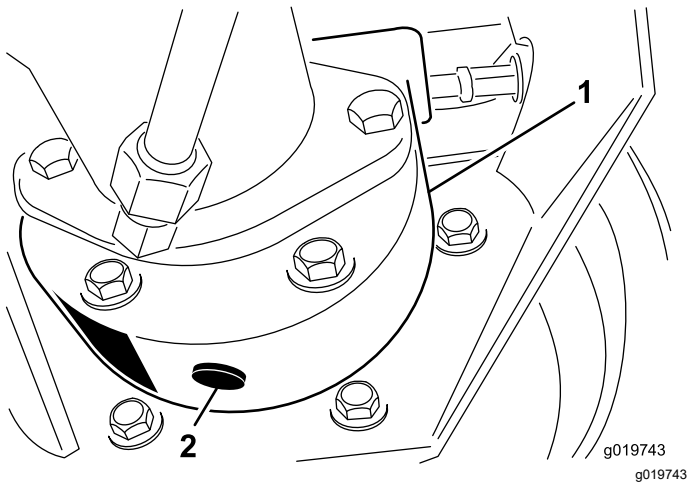

Figure 63
3. Place a drain pan under the brake housing, remove the drain plug and allow the oil to drain (Figure 63).